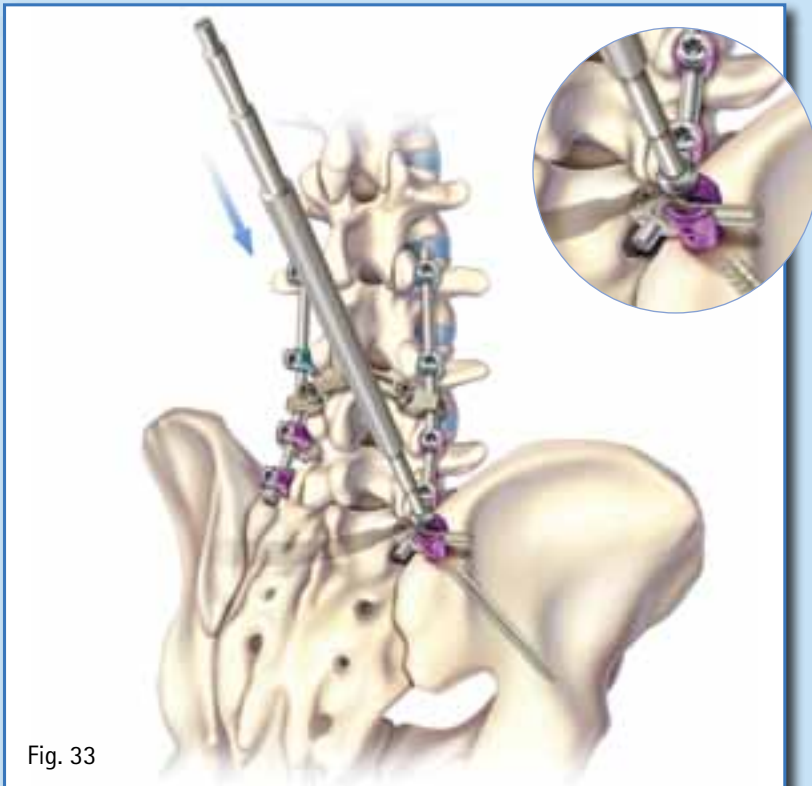

Fig. 33
- Start the set screw on the pelvic screw and finger tighten the set screw.(Fig. 33)